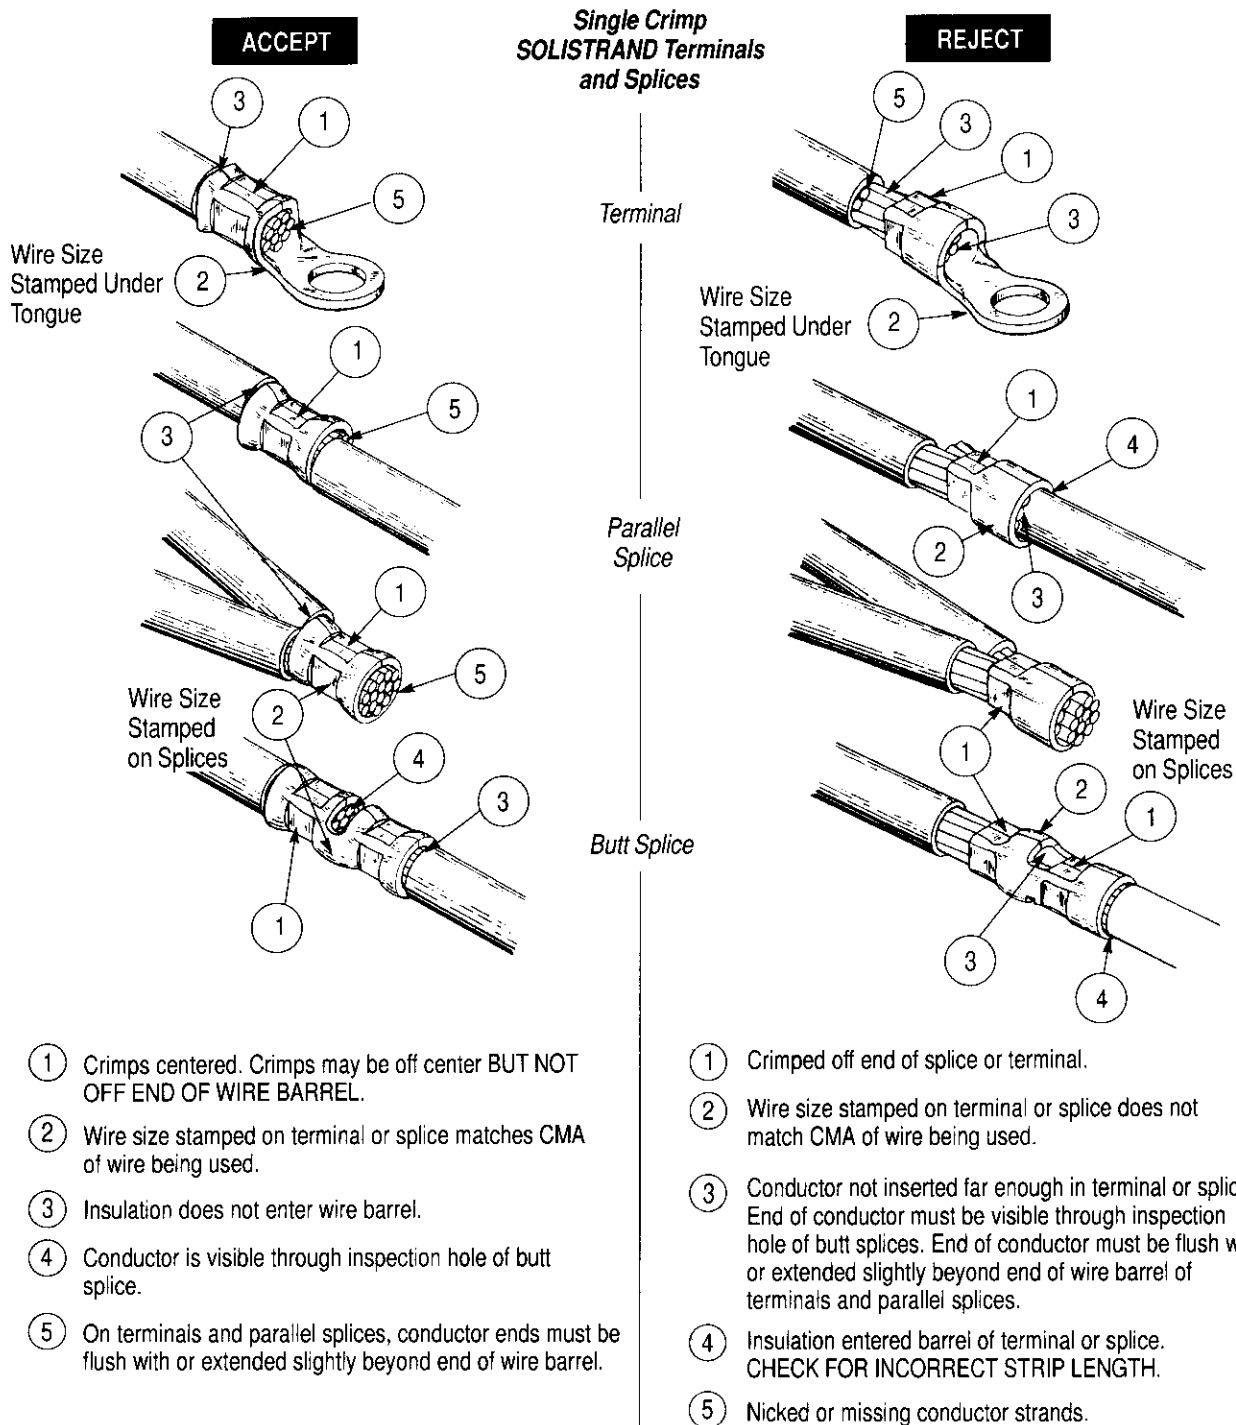
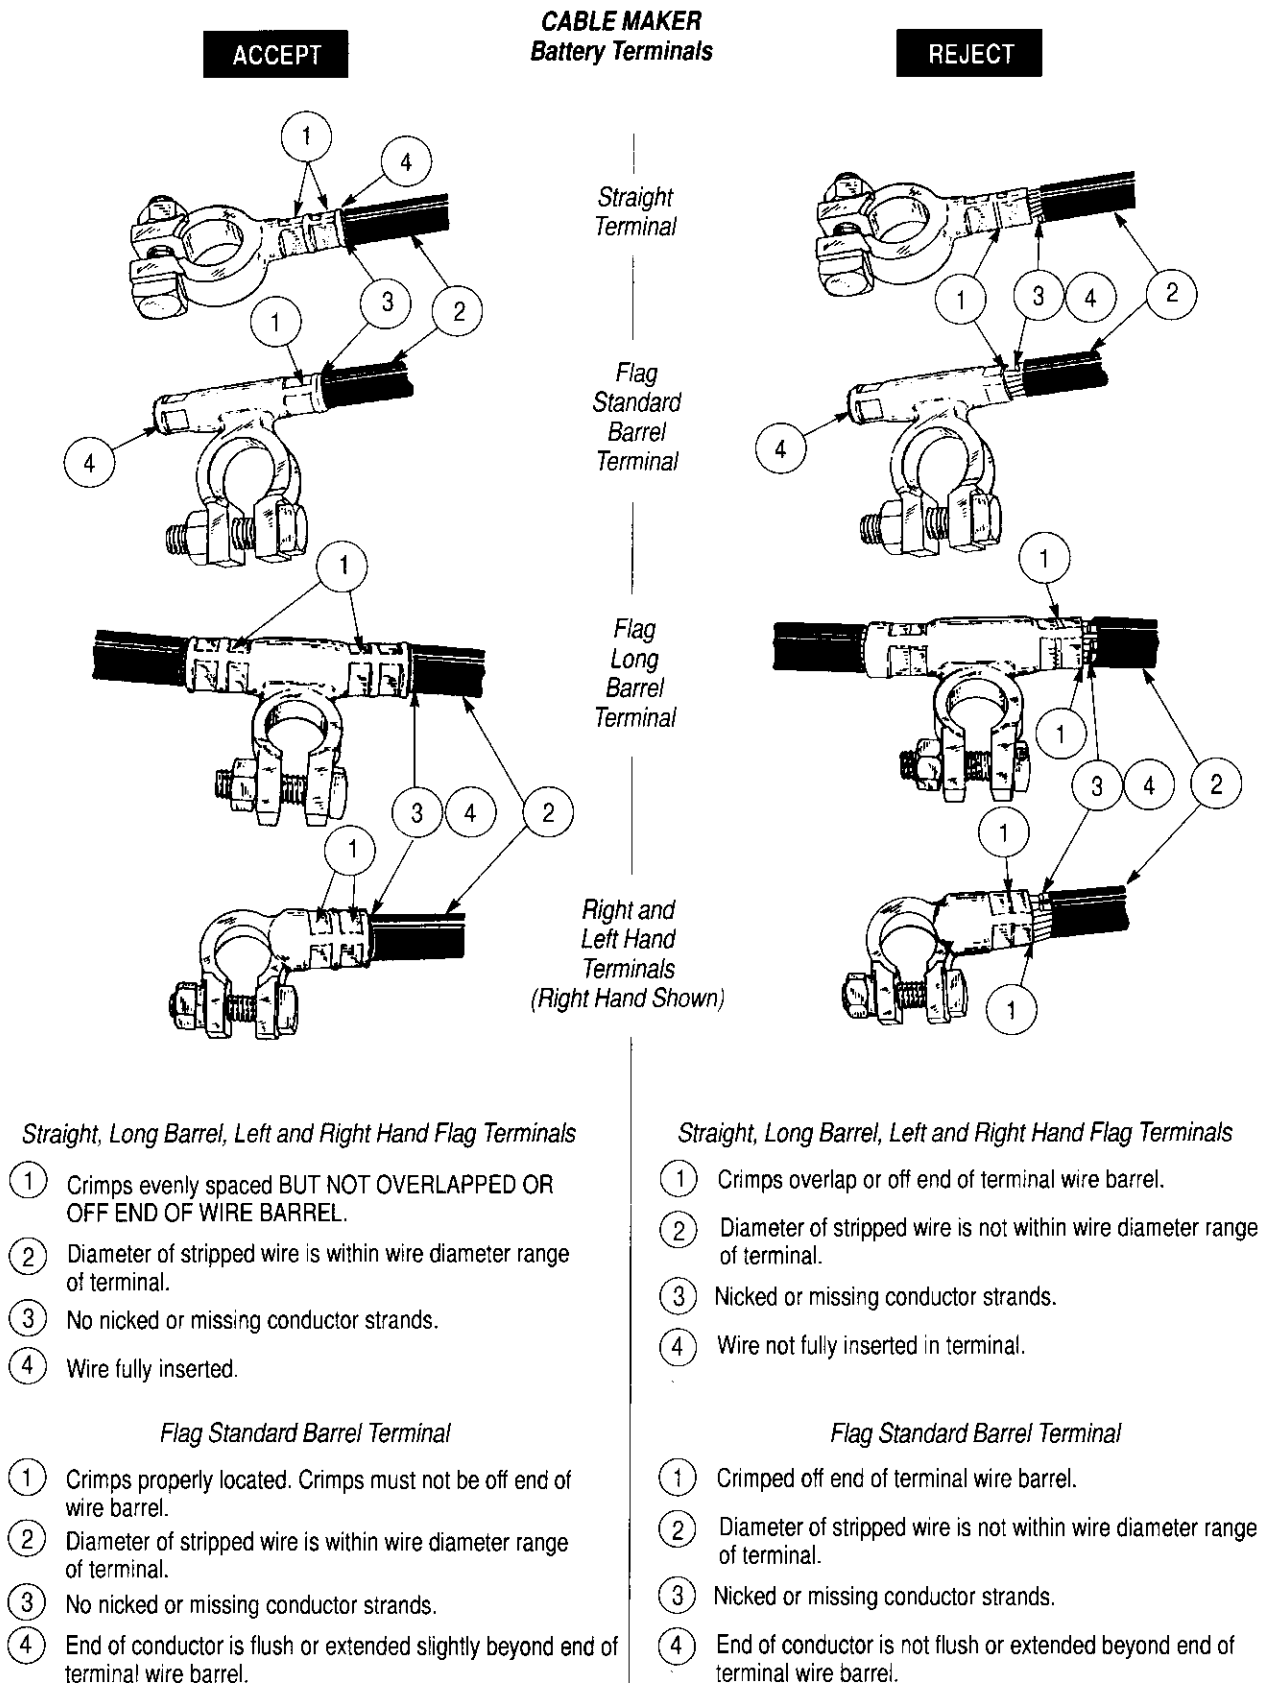

Figure 7
Figure 9
5. Refer to Section 6 and Figure 9 for crimp inspections.
9. Refer to Section 6 and Figure 9 for crimp inspections.
3. Refer to Section 6 and Figure 9 for crimp inspections.
Refer to Section 6 and Figure 9 for crimp inspections.
Inspect crimped SOLISTRAND terminals and splices by checking the features described in Figures 7 and 8. Inspect crimped CABLE MAKER battery terminals by checking the features described in Figure 9. Use